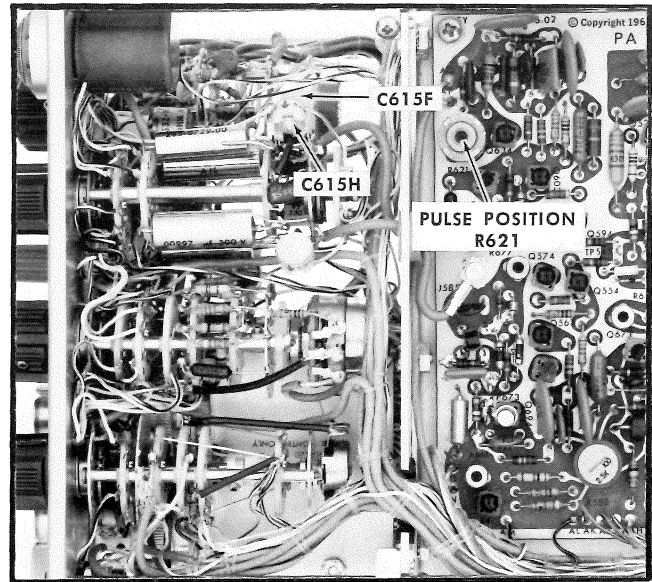

Fig. 7-29. Locations of C615F, C615H and PULSE POSITION, R621, control.
- c. Adjust the PULSE POSITION control, R621 (Fig. 7-29), to horizontally position the start of the pulse rise to the 1 cm graticule line.
- e. Adjust C615F (see Fig. 7-29), to horizontally position the start of the pulse rise to the 1 cm graticule line.
- g. Adjust C615H, (see Fig. 7-29) to horizontally position the start of the pulse to the 1 cm graticule line.